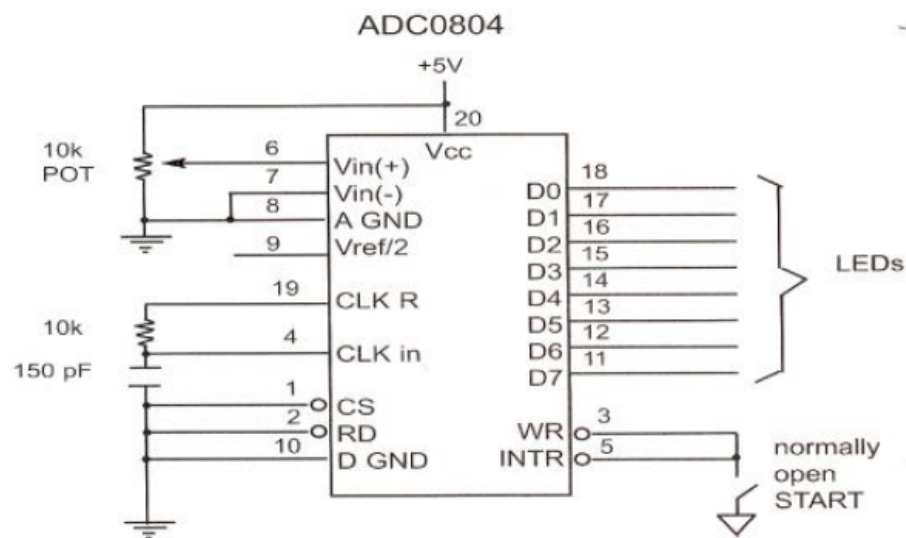

Figure 9.2: ADC0804 test circuit for free-running mode.
- Connect the ADC0804 as shown in Figure 9.2 for free-running mode.
- Vary the input signal from 0 to 5 V using the 10 k Ω potentiometer shown in Figure 9.2 as the ADC's input. The input must not exceed 5 V.
4. Compare your hardware result with the value calculated using Equation (1).
1. Use the circuit from Figure 9.2, modified as follows.